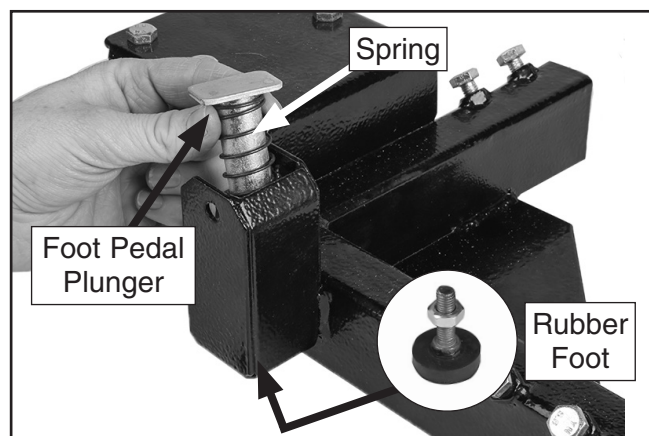

Figure 5. Installing foot pedal plunger and spring.
2. Install foot pedal plunger and spring into each front corner bracket (see **Figure 5**), and attach a rubber foot (with M10-1.5 hex nut) to the bottom of each foot pedal plunger.